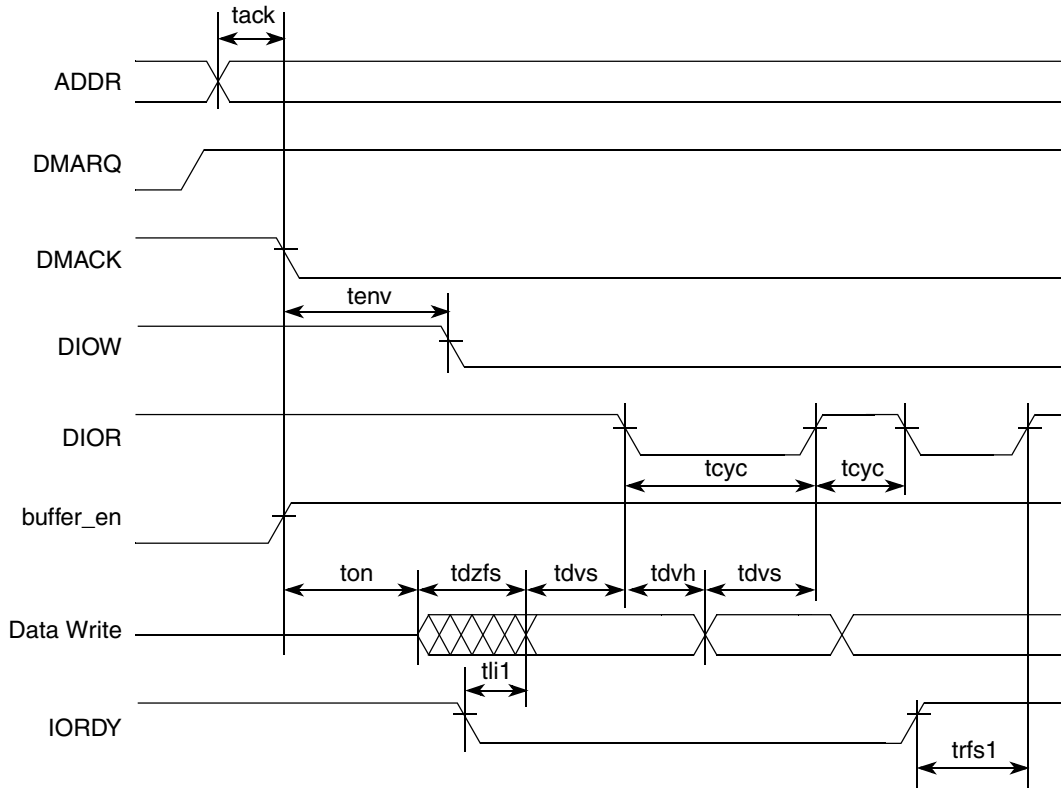

Figure 30. UDMA Out Transfer Start Timing Diagram
- Figure 30 gives timing for UDMA out transfer start